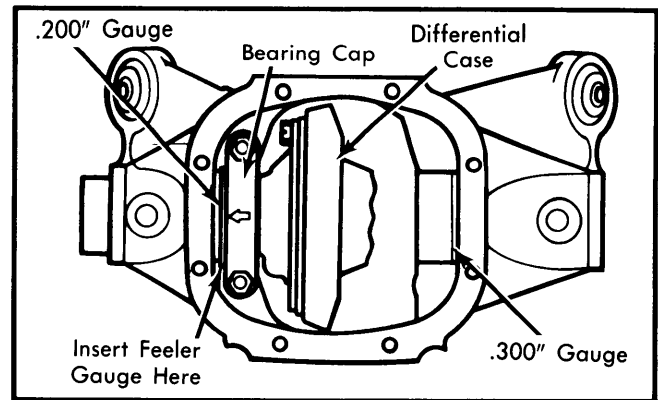

Fig. 4 Measuring for Side Bearing Shim Thickness
3) Using a feeler gauge, select thickest blade that will enter between gauge disc and carrier bore on ring gear side of case. Feeler gauge should fit with slight drag. Remove and record feeler gauge thickness. Then add .500" to recorded feeler gauge thickness for total shim thickness. See Fig. 4.